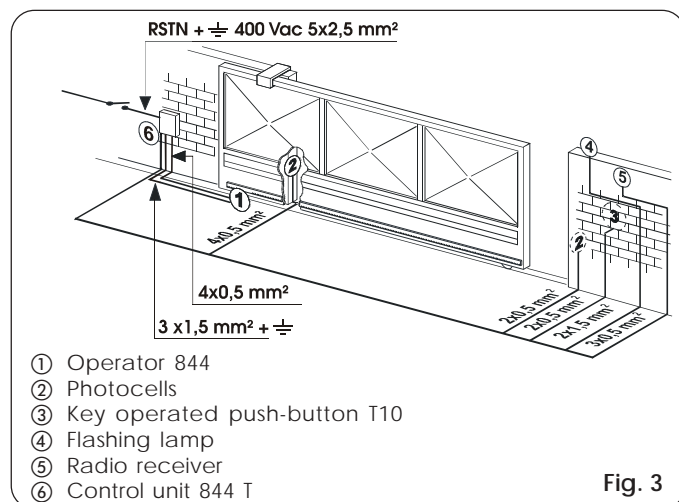

Fig. 3
- 4) Lay the electrical cables for connection to the accessories and power supply as in Fig.3.